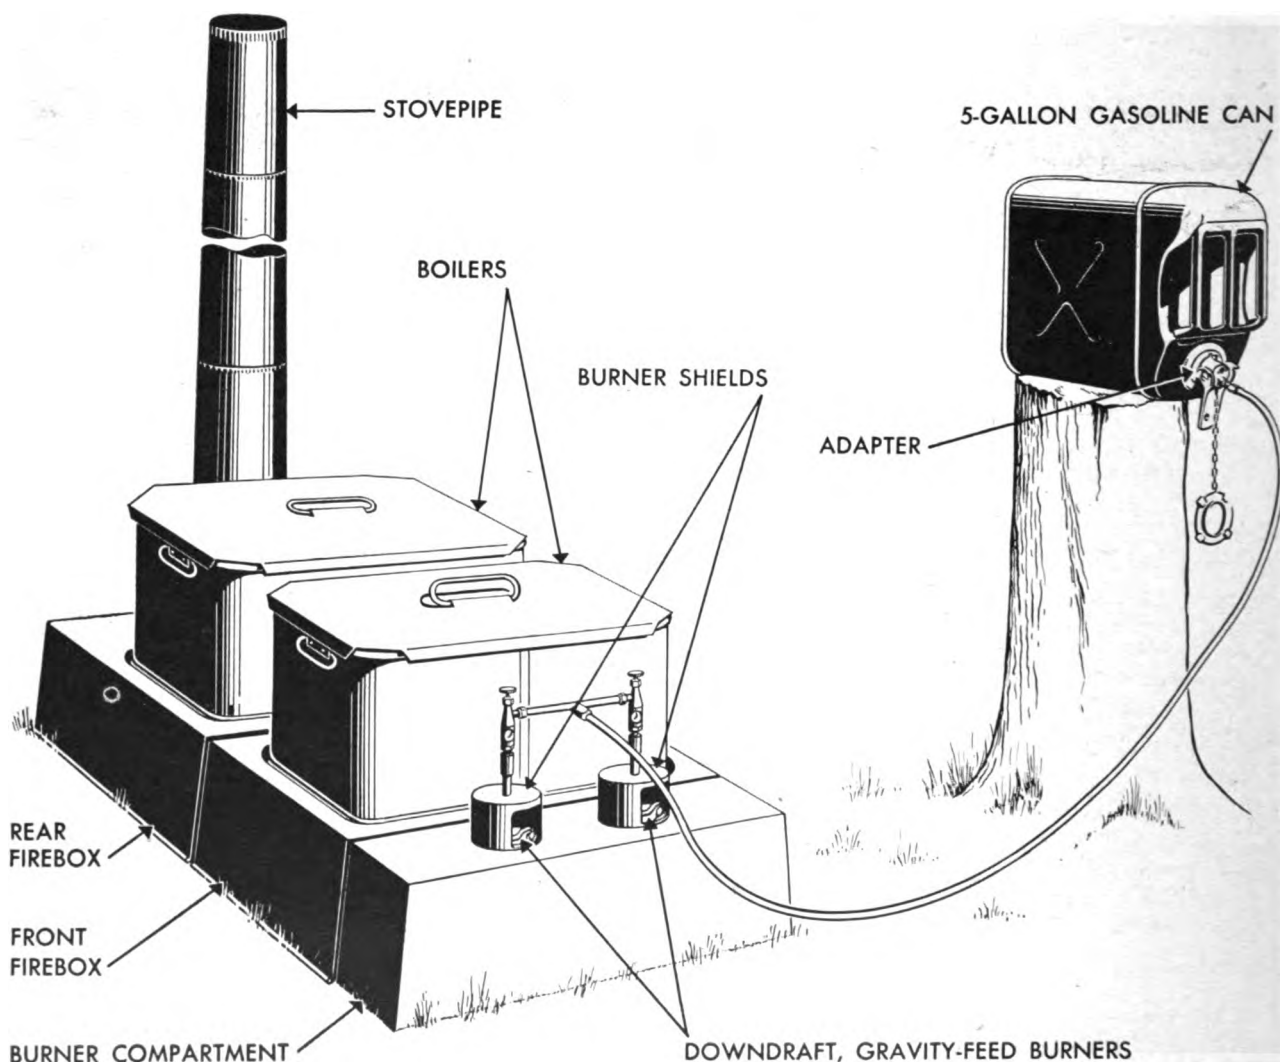

Figure 16. Outfit, cooking, pack (64-O-214) assembled for operation. Fuel container is placed at higher level than burners to provide gravity-feed.
a. The pack cooking outfit (stock No. 64-O-214) (see fig. 16) has been designed to replace the earlier cavalry pack cooking outfit and the mountain artillery cooking outfit. (See pars. 26 and 27.) The new outfit may be operated with gasoline, kerosene, fuel oil, or crankcase drippings, or if necessary, it may be fired with wood.
18. How to Assemble Range (see fig. 16)